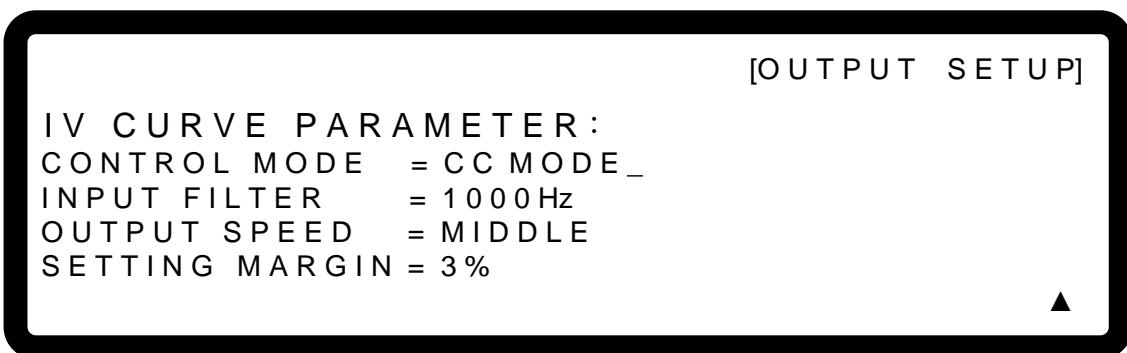

Figure 3-27
IV Curve related parameters such as CONTROL MODE, INPUT FILTER, OUTPUT SPEED and SETTING MARGIN can be modified in the IV CURVE PARAMETER as shown in Figure 3-27. The IV CURVE PARAMETER settings adjust the IV Curve algorithm in Table mode, SAS mode, and IV Program.
1. Use the “”, “” keys to move the cursor to the column to be set as shown in Figure 3-27.